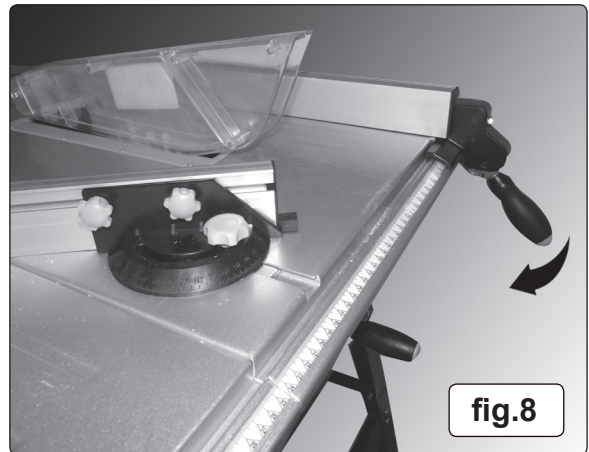

fig.8
- 4.6.1. Install the rip fence by locating in the channel at the base of the table. The fence locks in place by pressing the handle downwards (fig.8)